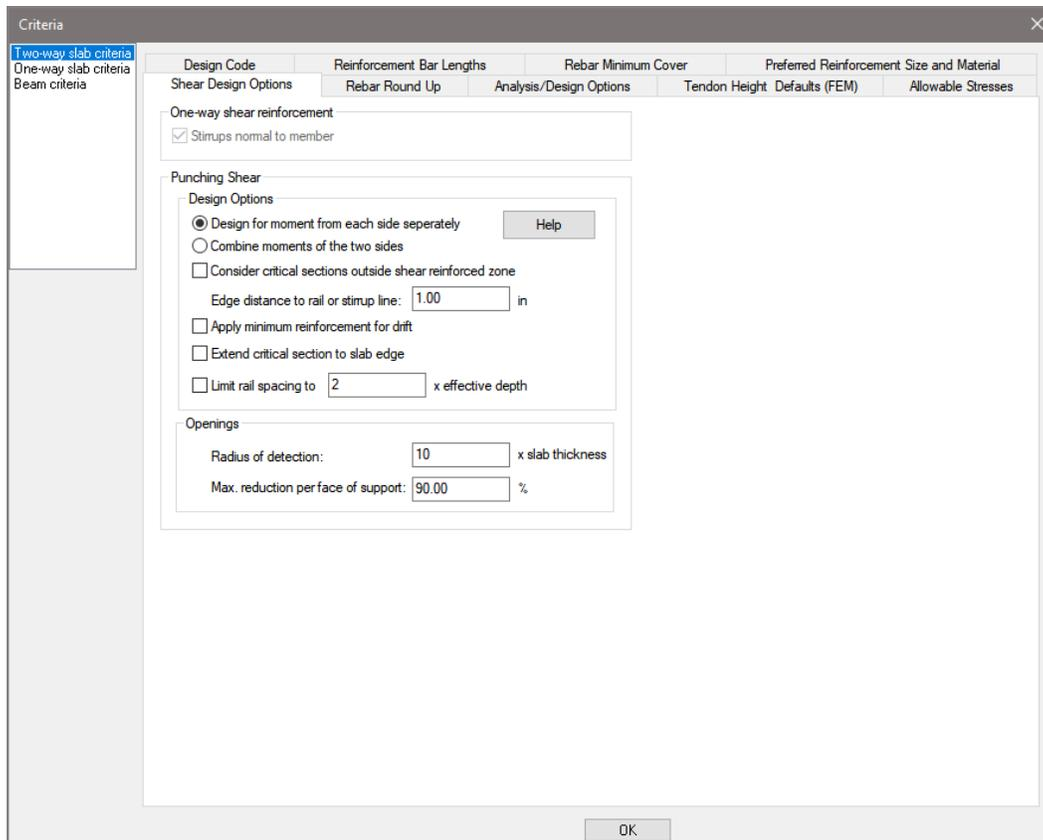

**Figure 2-15**
- Click on the *Preferred Reinforcement Size and Material* tab. This will open the window from **FIGURE 2-15**.